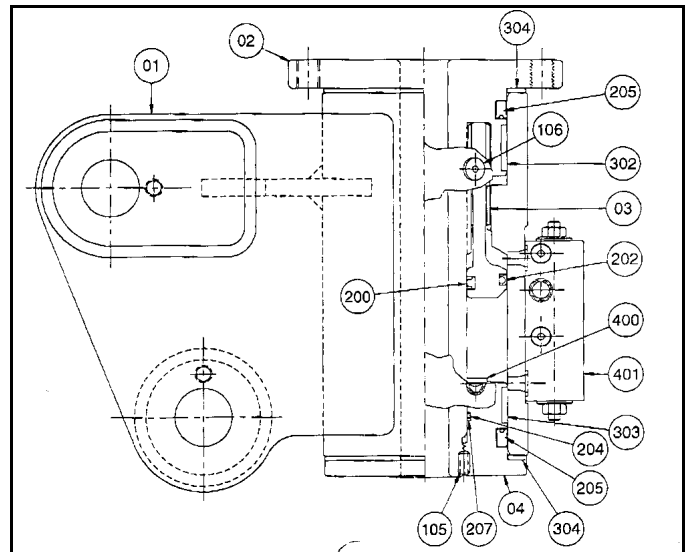

Figure 3-34: Cage Rotator
Wash all parts thoroughly in cleaning solvent and blow dry. Coat all sealing and working surfaces with a good grade hydraulic oil. Install seals and bearings in the piston sleeve, shaft, and end cap oriented as seen in (see Figure 3-34). The gap on the wear rings (302)(303) should not exceed 3,175 mm (.125"). Place the actuator in a vertical position and install the piston sleeve (03) in timed relation to the housing. Apply firm pressure as the new seals enter the housing and become compressed by the housing chamber.